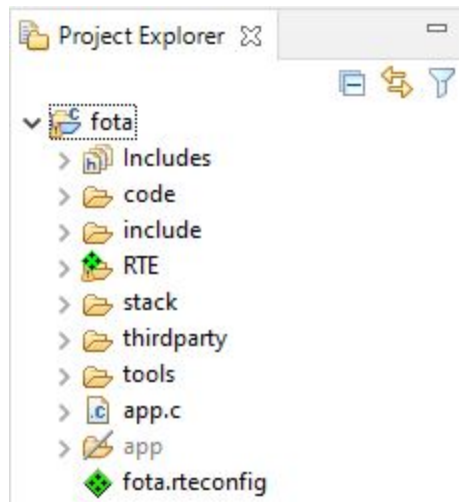

Figure 13. Copying the Project
1. Import the source code project. Navigate to **File > Import > General > Existing Projects into Workspace**, set the **Select root directory:** option with the path to the source code `<cmsis_pack_root>\ONSemiconductor\<device>\<version>\firmware\source\lib\fota`, mark the checkbox **Copy projects into workspace**, and click **Finish**. The project appears in the left side of **Project Explorer**, as shown in the figure "Copying the Project" \(Figure 13\).